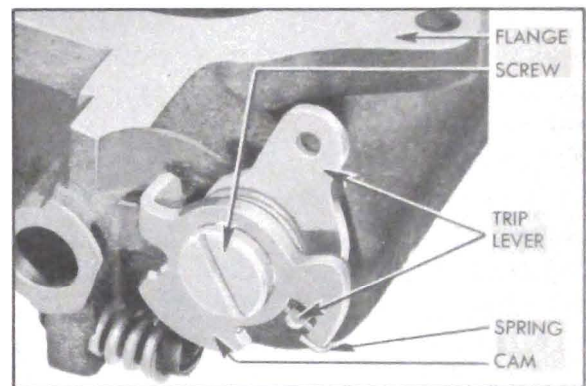

Figure 3-33—Fast Idle Cam, Spring, and Trip Lever
2. Place fast idle cam and cam trip lever over fast idle screw so that tongue on trip lever is held in the notch in cam by the hooked end of cam spring, then install parts on body flange. See figure 3-33.